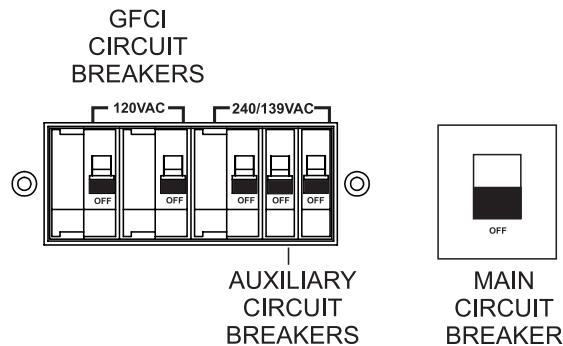

Figure 47. Main, Aux. And GFCI Circuit Breakers (OFF)
1. Place the **main, GFCI, and aux.** circuit breakers (Figure 47) in the **OFF** position prior to starting the engine.